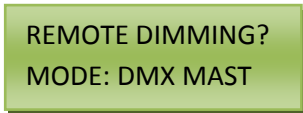

Figure 15.2
- a. This Action allows the Time-Keeper® to be a DMX Master or DMX Slave. To change the MODE from DMX Master, pressing the RIGHT Arrow will change it to DMX Slave. Changing Time-Keeper® to DMX Slave creates two more options to change. To change the Relay Address, press the DOWN Arrow so the cursor is on the colon between the words RLY AD and 001. Pressing the RIGHT Arrow will move the cursor over the numbers enabling them to be changed by pressing the UP or DOWN Arrows. Press the LEFT Arrow to return to the colon to move onto programming the Dimmer Address. Press the DOWN Arrow to move the cursor onto the colon between the words DIMS AD and 073. Press the RIGHT Arrow to move the cursor over the numbers, enabling them to be changed by pressing the UP or DOWN Arrows. Make sure to press ENTER to save the information. See Figure 15.2 and 15.3 for a visual example.